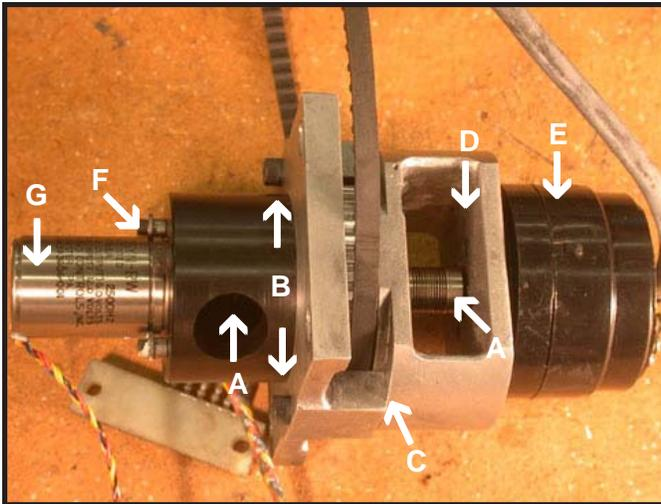

Figure 2.6.1
As shown in Figure 2.6.1, loosen (2) set screws on each end of the (2) couplers (A) (8 set screws total between (2) couplers). Next remove (2) S.H.C. screws (B). Feedback unit will come apart at (C). Now you have access to S.H.C. screws (D). Remove S.H.C. screws and discard Feedback unit (E) and coupler. Remove S.H.C. screws (F) and then discard encoder (G) and coupler.
Assemble the attach mounting block to the encoder bearing block, reusing the two allen bolts (B). Caution: the belt is only under 1 leg of the assembly and is actually around the other leg (see figure 2.6.1). Make sure the encoder belt (A) is in the place on the pulley before assembly. Mount the encoder on the end of the new encoder shaft. Tighten the set screws in shaft coupling and mark the encoder mounting hole location.